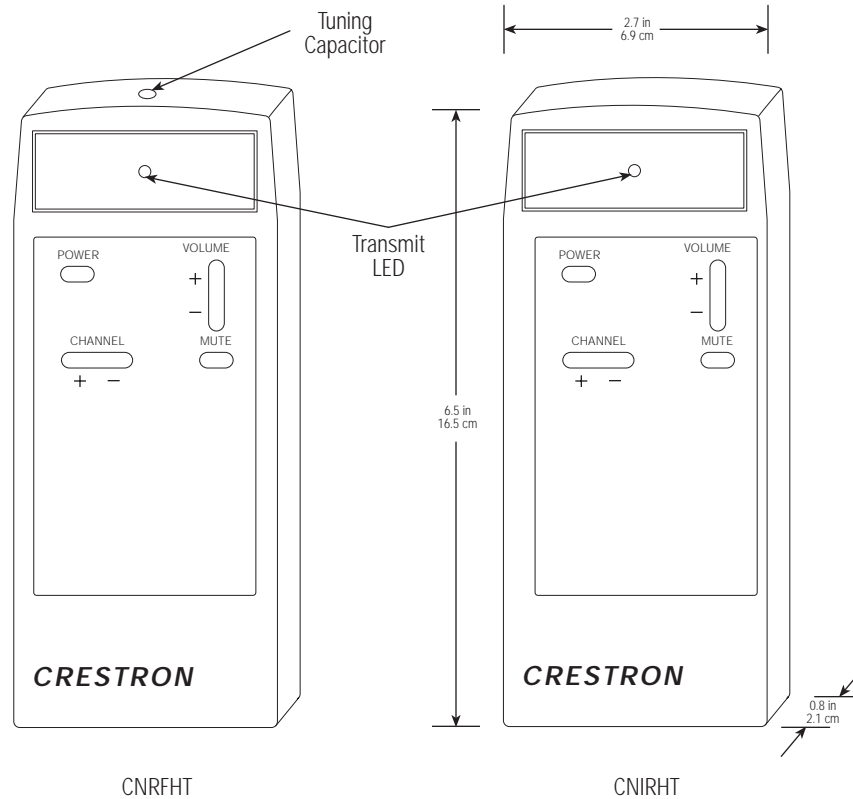

Figure 1. CRESTRON Hand-held Wireless Transmitters
The CNRFHT, illustrated in figure 1, is a hand-held radio-frequency (RF) transmitter. The unit is designed to operate with the CRESNET II remote control system (herein referred to as the CRESNET II system) via a RF wireless receiver, CNRFGW Wireless Gateway. The CNRFHT is available with 15 or 30 button controls. Depression of any button on the CNRFHT customized 15- or 30-button panel initiates a RF signal transmission to the CNRFGW.
The CNIRHT, illustrated in figure 1, is a hand-held infrared (IR) transmitter. The unit is designed to operate with the CRESNET II system via an IR wireless receiver, CNIRGW Wireless Gateway. The CNIRHT is available with 15 or 30 button controls. Depression of any button on the CNIRHT customized 15- or 30-button panel initiates an IR signal transmission to the CNIRGW.
Aside from the diversity in button panel configuration, the only external difference between CNRFHT and CNIRHT is the type of plastic material at the pointing end of each unit. CNRFHT has a black plastic cover with a tuning hole (refer to figure 1) and CNIRHT has a ruby-colored IR signal filter.